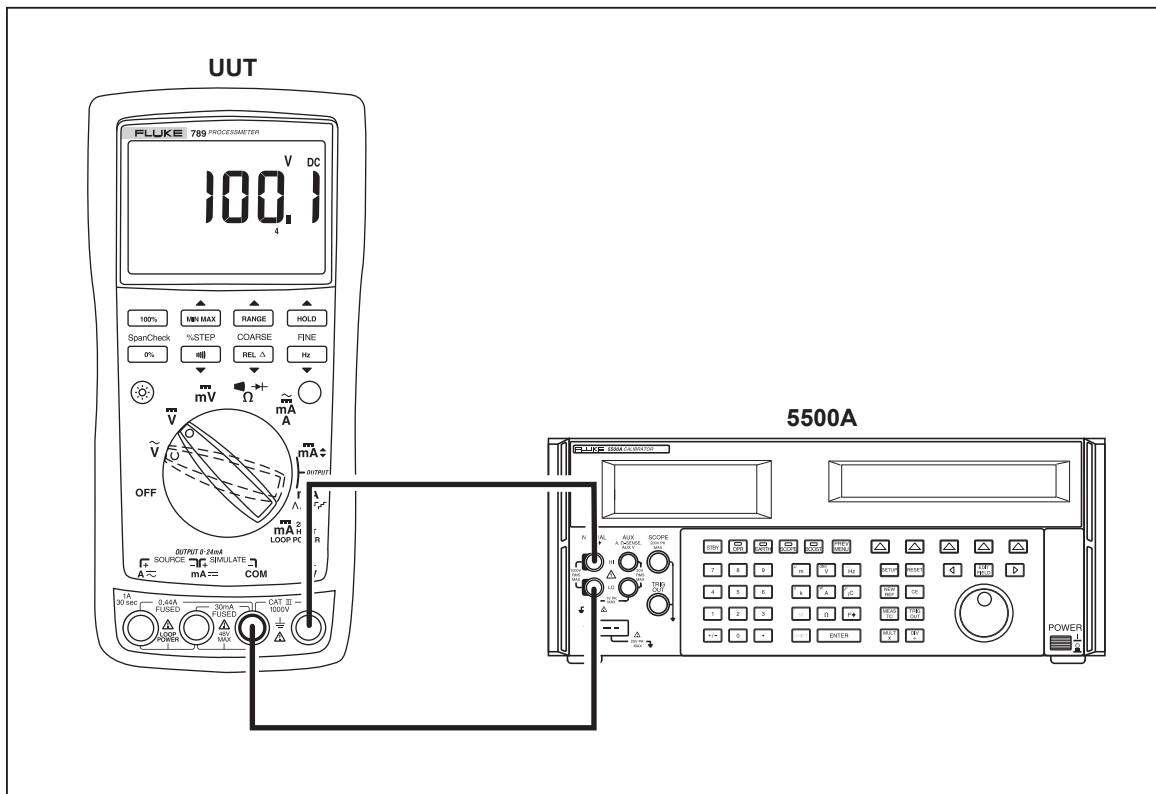

Figure 9. AC/DC Voltage Measurement Test Connections
3. Connect the calibrator to the COM and  $\Omega^+$  terminals on the UUT as shown in Figure 9.
3. Connect the calibrator to the COM and  $\Omega V^+$  terminals on the UUT as shown in Figure 9.